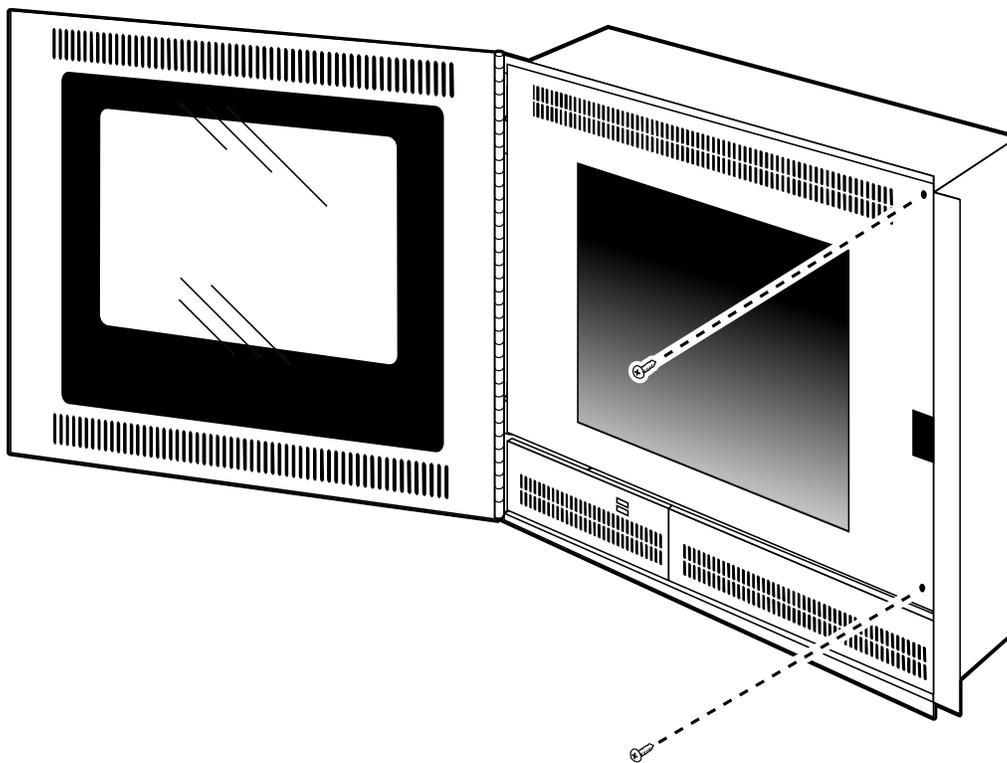

Figure 2.7 Securing the LCD Display to the Enclosure
2. Fasten the LCD display panel to the enclosure using the two factory-supplied, black, Phillips head machine screws (see Figure 2.7).